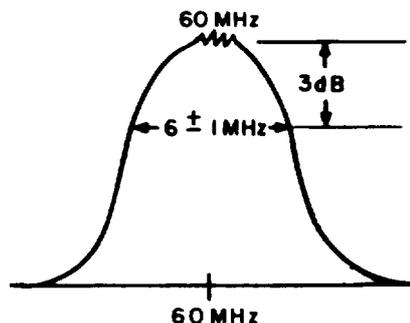

Figure 4-8. Typical Response, IF Output Amplifier Alignment
- (4) Adjust C30, C32 and C34 for a maximum amplitude symmetrical response centered on the 60 MHz marker. The 3 dB bandwidth should be  $6 \pm 1$  MHz. Refer to Figure 4-8 for a typical response.
- (5) If the bandwidth specification cannot be met by adjusting the capacitors, change the value of R21 and repeat the preceding alignment.
- (6) Steps (6) through (10) determine the gain of the IF Output Amplifier stage. Begin by removing -15 V from FL7. Then set the sweep generator output level to 10 mV (-27 dBm).
- (7) Observe the level of the waveform on the oscilloscope.
- (8) Connect the output of the sweep generator to the input of the detector.
- (9) Increase the output level of the sweep generator until the baseline of the oscilloscope is at the same level as was the peak level of the sweep response.
- (10) The difference between the sweep generator attenuator settings in step (6) and in step (9) is the gain of the output Amplifier Stage. It must be 10 dB + 3 dB.
- (11) Reconnect -15 volts to FL7.